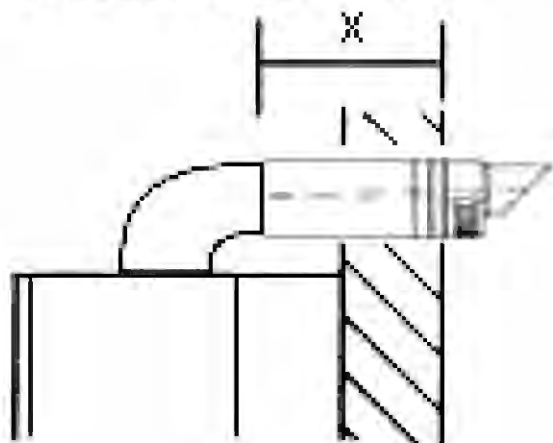

Figure 6
- Measure the distance, X, from the edge of the outer elbow duct to the outside of the wall (Fig 6).